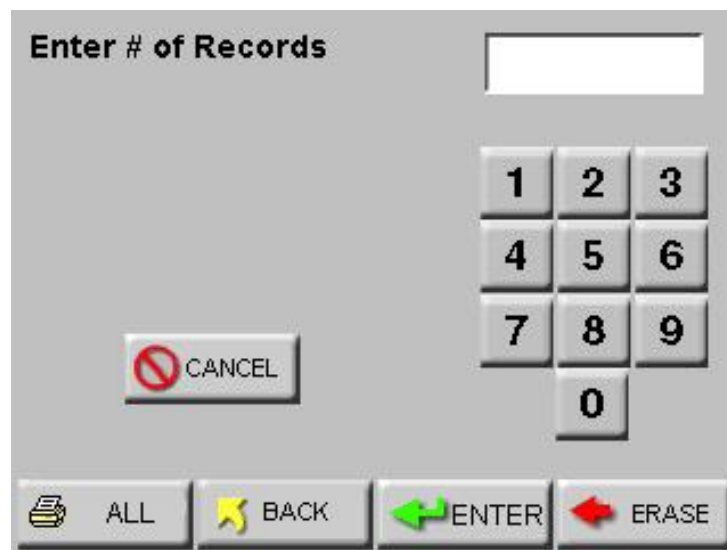

Figure 6-78 Print Range Screen – Buffer
- Press the RANGE button. The Print Range screen will display as shown in Figure 6-78.